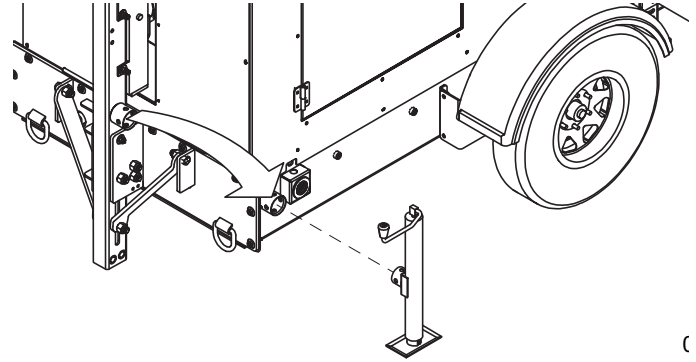

Figure 2-6. Install Tongue Jack
1. See Figure 2-6. Move the front jack from the tongue to the location shown and lower the jack.